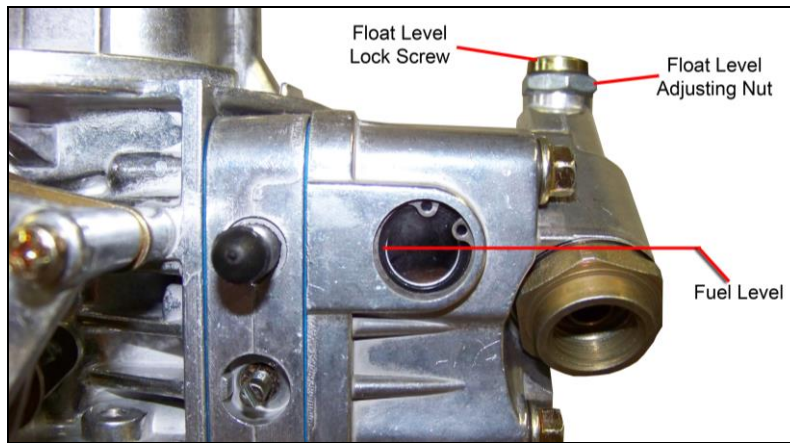

Figure 14
2. Observe the sight glass for the fuel level. If none is seen, the level is too low. If it is higher than the middle of the sight window, it is too high. **NOTE:** A properly set float level will have the fuel level located at the middle or slightly below the middle of the sight window, as shown by the line in **Figure 14**.